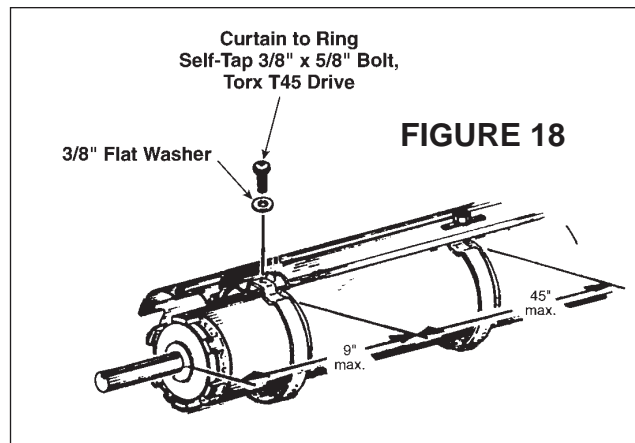

FIGURE 18
- If the barrel has rings, pull the curtain up and hold the top slat against the rings. Make holes in the top slat aligned with the holes in the rings. Use drill/driver to attach top slat to rings with 3/8" round head Torx screws and washers provided. Set the drill/driver clutch to minimum torque required to drive screws. DO NOT use impact wrench because it will strip the threads in the rings. See Figure 18.